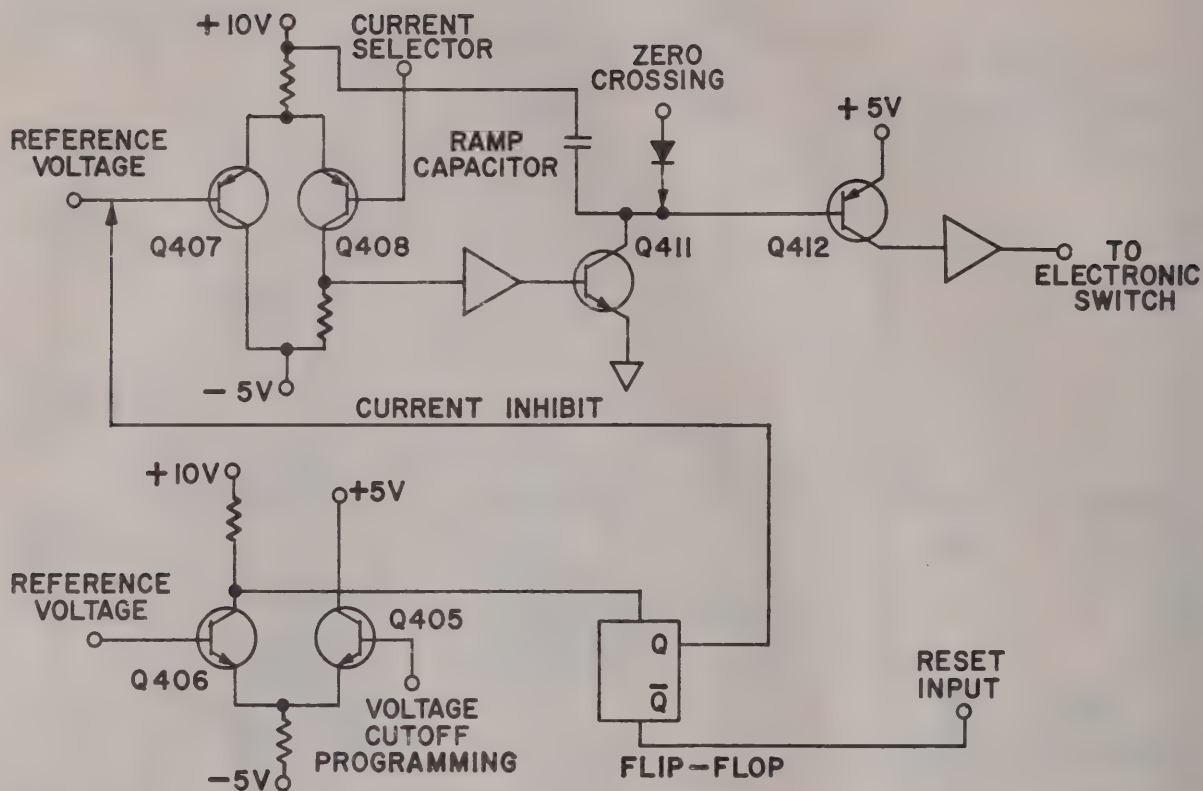
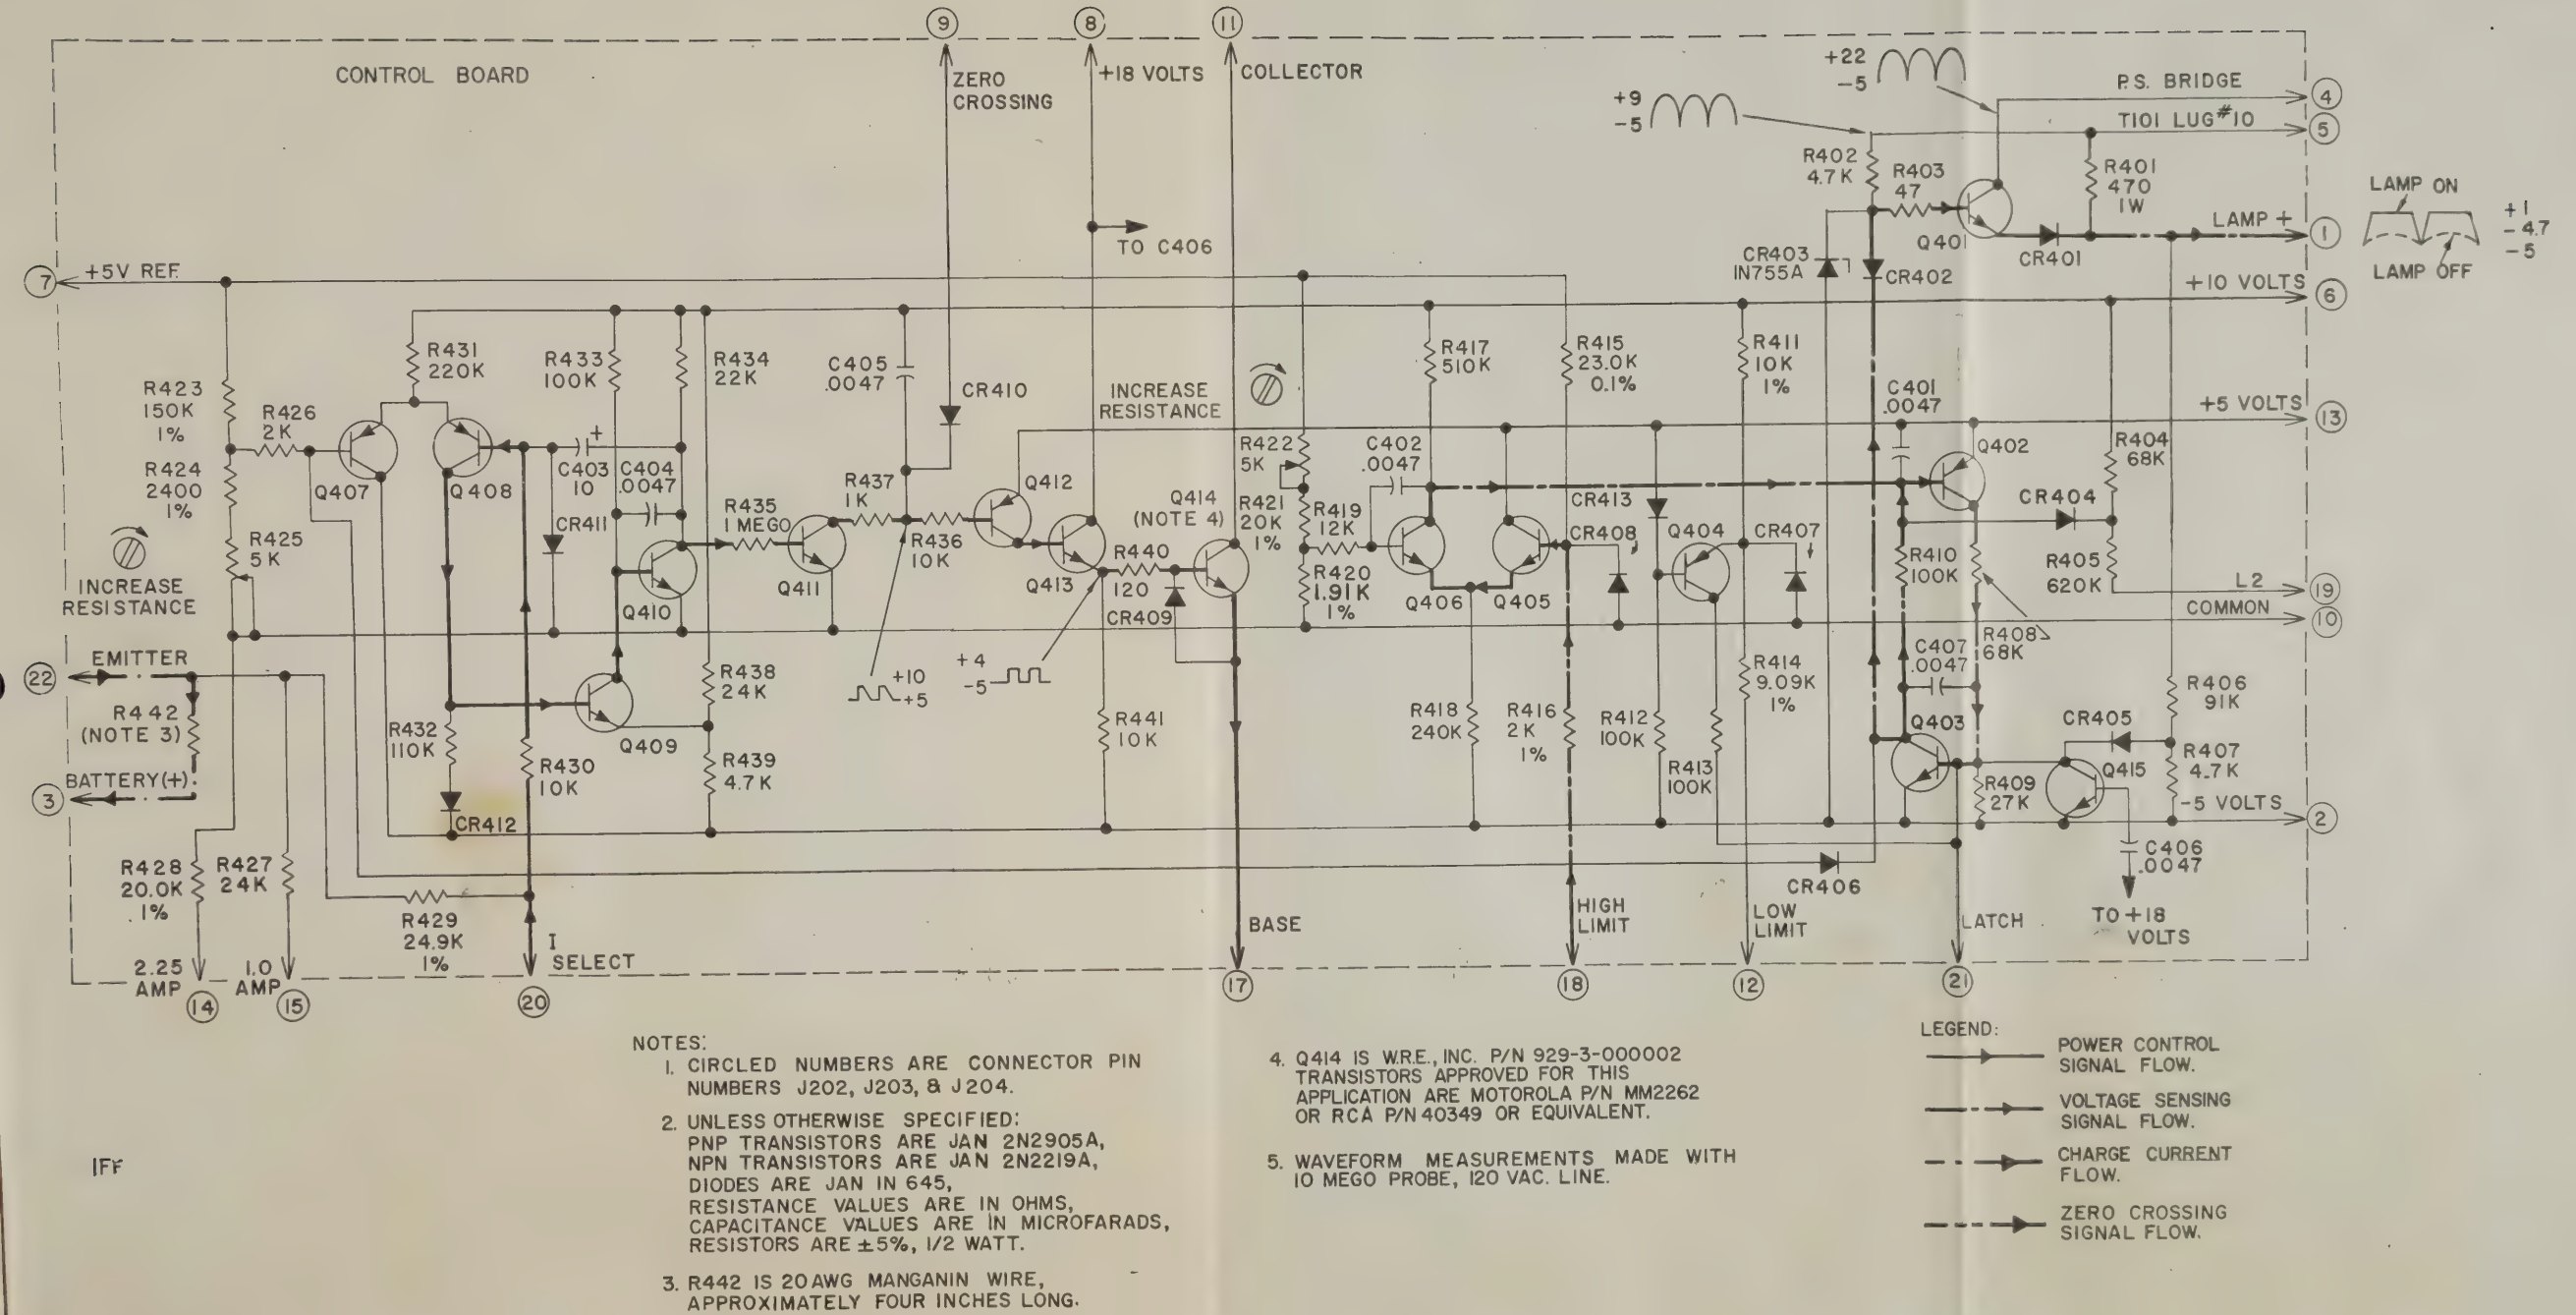

Figure 4-3. Simplified Schematic; Control Board
Figure 5-2. Schematic Diagram; Control Board
(2) The unrectified transformer output is continuously monitored by the zero crossing detector. Each time the transformer voltage output drops to zero, a pulse is generated by the zero crossing detector. Transistors Q305 and Q306 shape the zero crossing pulse.
b. Control Board. The control boards each contain two principal circuits: a current comparator and a voltage comparator. Figure 4-3 shows a simplified schematic of a control board. Complete circuit detail for the control boards is found in figure 5-2.
(1) The current comparator, composed of Q407 and Q408, senses the current flowing to the battery and compensates for current variations due to fluctuations in line frequency, line voltage, and battery terminal voltage by changing the slope of the ramp generator output (Q411). The zero crossing signal synchronizes the ramp generator at twice the line frequency. Each time the ramp voltage falls below +5 volts, the level sensor, Q412, activates the electronic switch which passes current to the battery.
(2) The voltage comparator, composed of Q405 and Q406, continuously monitors the battery terminal voltage through the programming resistors of the voltage cutoff selector switches. This voltage is compared with a reference voltage and, when the battery terminal voltage reaches the preset cutoff
(7) Turn the shaft of potentiometer R422 on the control board of the channel to be calibrated full clockwise. See figure 5-2.
(8) Set the CHARGE CURRENT selector switch of the channel under test to its 1.0 A START position and release. Repeat this operation at 1/2-second intervals while performing step (9).
(9) The CHARGING lamp will remain on when the CHARGE CURRENT selector switch is released from the START position in step (8) above. Slowly adjust the shaft position of R422 until the CHARGING lamp turns off immediately after the CHARGE CURRENT selector switch is released from its START position.
(10) Remove the short circuit between the base and emitter of Q404.
(11) The zero volts cutoff of the channel is calibrated.